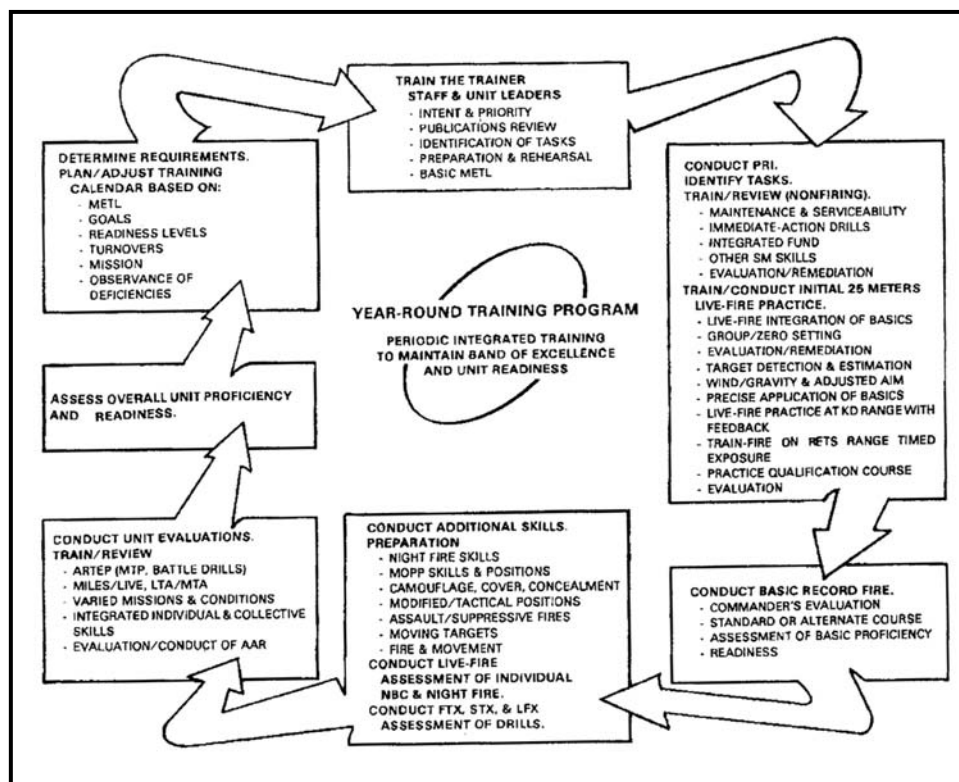

Figure 1-1. Unit marksmanship sustainment strategy.
a. **Initial Training.** The training strategy for basic rifle marksmanship begins in IET and continues in the unit. (An example of this overall process is illustrated in Figure 1-1 and provides a concept of the flow of unit sustainment training.) IET provides field units soldiers who have been trained and who have demonstrated proficiency to standard in basic rifle marksmanship. The soldier graduating from these courses has been trained to maintain the rifle and hit a point target. He has learned to apply the four marksmanship fundamentals, and other skills needed to engage a target.
(1) Once the soldier understands the weapon and has demonstrated skill in zeroing, additional live-fire training exercises are conducted before qualification. Target types and scenarios of increasing difficulty must be mastered to develop proficiency.
(2) IET culminates in the soldier's proficiency assessment, which is conducted on the standard record fire range or approved alternates, followed by instruction on advanced firing techniques to include a night fire with either iron sights (unassisted) or night vision goggles (assisted). This evaluation also provides an overview of training effectiveness.